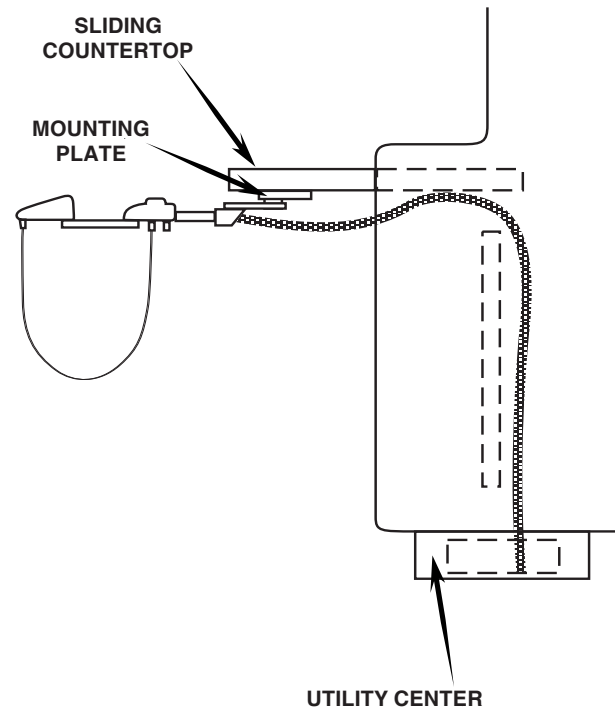

Figure 1. Left/Right Assistant's Instrumentation.
1. Locate mounting plate hole pattern under the sliding counter top and fasten the arm assembly to the underside using the 10-32 screws provided. Route the umbilical to the utility center. *See Figure 1.*